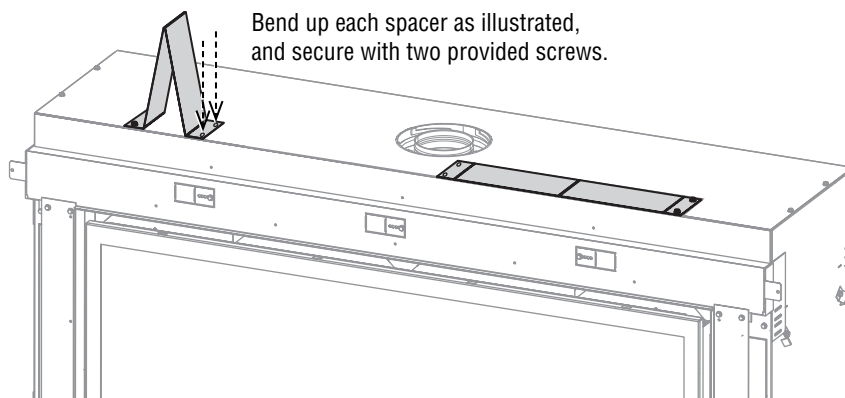

Figure 4
1. Assemble the top spacers (*Figure 4*).
Assemble **TOP SPACERS** before installing fireplace (*Figure 4*).